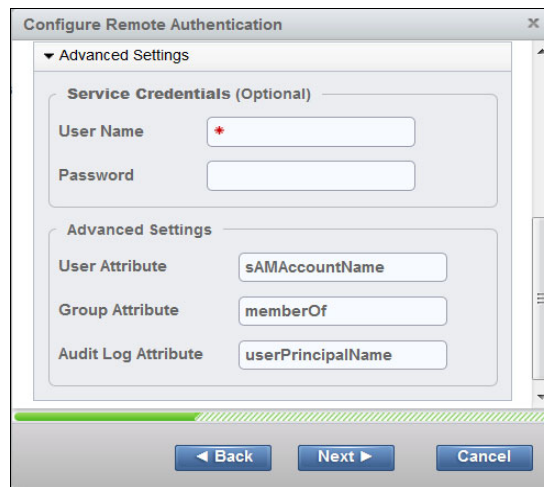

Figure 9-43 Remote Authentication wizard (step 3 of 4)
4. Any user with authority to query the LDAP directory can be used to authenticate. In this example, the Active Directory domain is `itsolab.ibm.com`, so the Administrator login name on the Domain `itsolab.ibm.com` is used to authenticate. Click **Next** (Figure 9-43).